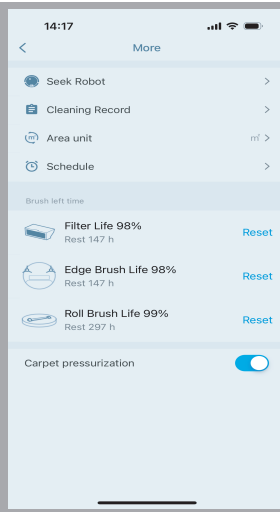

Fig. 13
E). More functions please click the icon  on the main interface and enter the interface of Fig.13, users can set the cleaning schedule, seek the robot, check the cleaning record, check the lifetime of the